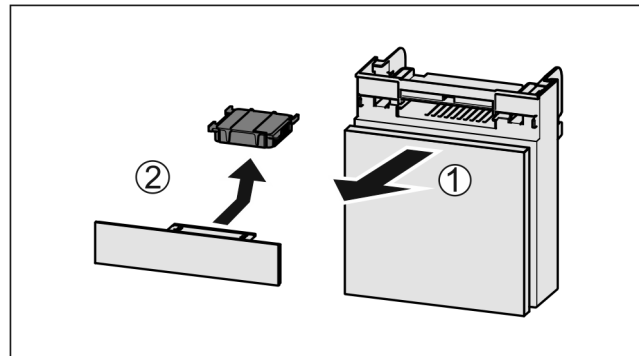

Fig. 145
- Pull out the compartment Fig. 145 (1).
- Remove the carbon filter Fig. 145 (2).